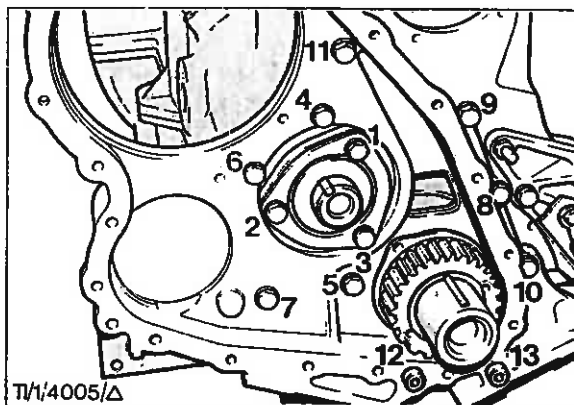

Fig. 55 - Timing Gear Housing Bolt Tightening Sequence - 4 Cylinder Engines
31. Nip the camshaft thrust plate bolts to secure the housing in position then tighten all the bolts in the sequence shown to the specified torque - refer to Fig. 55 or 56.